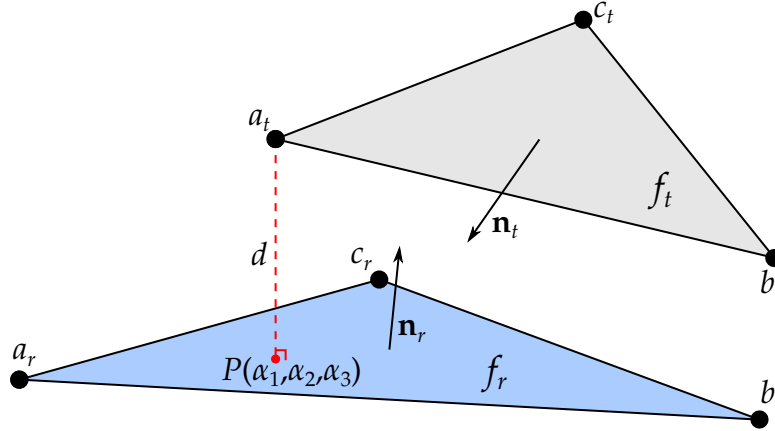

Figure 0-1. Contact detection conditions between two faces.
In these remarks, we discuss the conditions for contact detection. For reference, Figure 0-1 illustrates which geometric values help determine contact. In this figure and discussion, f_r is a face of the reference surface, and f_t is a face of the tracked surface. Contact is detected when *all of the following three conditions are satisfied*:
Here \mathbf{n}_r and \mathbf{n}_t are the normal vectors of faces f_r and f_t , respectively, and ε_1 is an input parameter. See Figure 0-1.
$(\alpha_1, \alpha_2, \alpha_3)$ are the local coordinates of point P (see Figure 0-1). P is the projection of point a_t on face f_r . ε_2 is an input parameter.
3. Contact condition 3 depends on the contact type. For either possible condition, let d be the distance between P and a_t (see Figure 0-1).